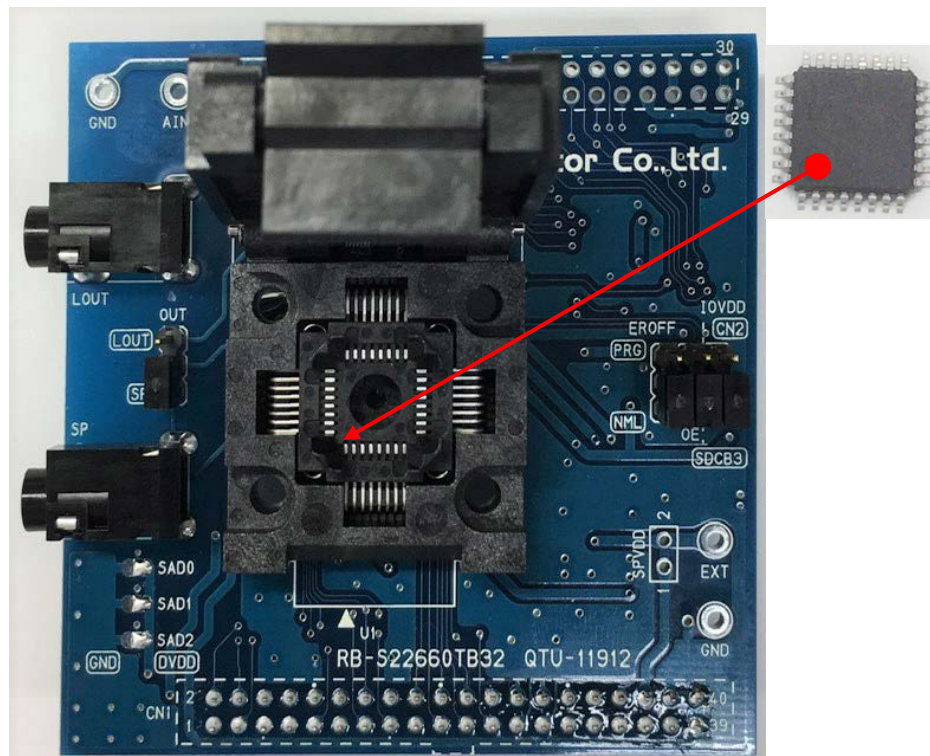

Figure 1 Outline Diagram
- Turn off the power when loading devices into the RB-S22660TB32. Be sure to orient the device correctly. Pin 1 direction is toward the lower left side when the lid is opened. The Figure 1 shows the setting directions of devices.